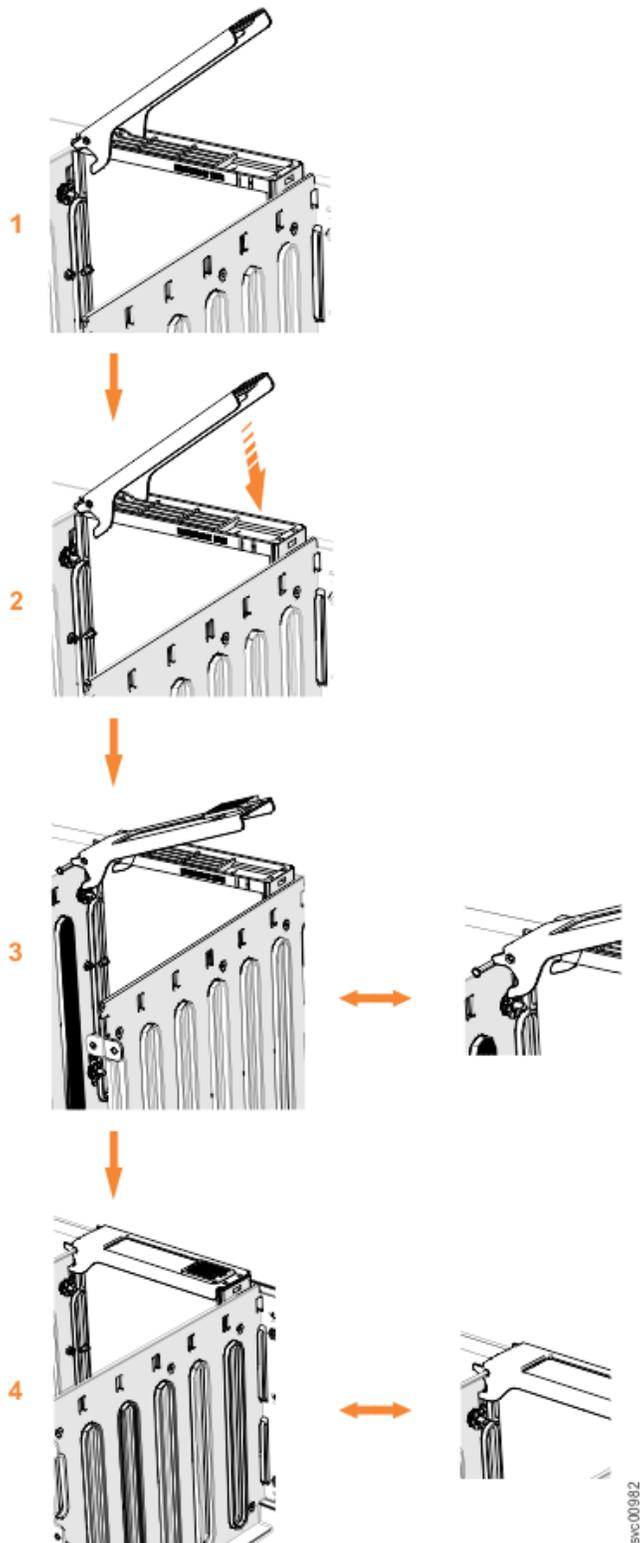

Figure 85. Replace the drive
5. Ensure that the drive handle (❶ in Figure 85 on page 76) of the drive assembly is in the open (unlocked) position.
7. Gently push the drive down until it stops and the bottom of the latch is aligned with the top of the partition. Ensure that the handle is not open more than 45 degrees from the drive carrier. (❷ in Figure 85 on page 76).
8. Rotate the handle down to lock the drive assembly into the chassis (**3** in Figure 85 on page 76).
10. Ensure that the top toe of the latch is also fully engaged (**4** in Figure 85 on page 76).